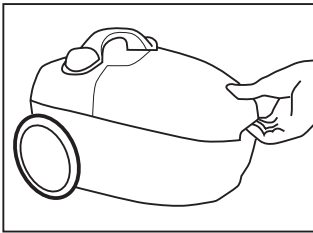
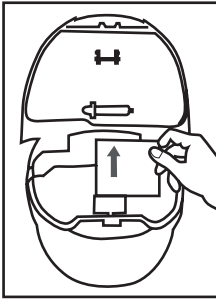

Fig. 7
Fig. 10
1. The 'dust full' indicator will turn red when it is time to empty the dust bag, switch off from the mains supply, release the catch and lift up the top cover (fig. 7).
5. To clean the motor filter, lift the top cover, remove the dust bag (figs 7 & 8) and slide out the filter (fig. 10).